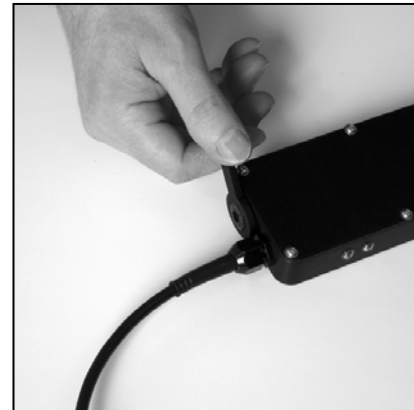

Figure 6: Removing the charge plug.
- Unscrew the charge plug from the bottom of the transceiver unit, using the supplied ring spanner (see Figure 6).